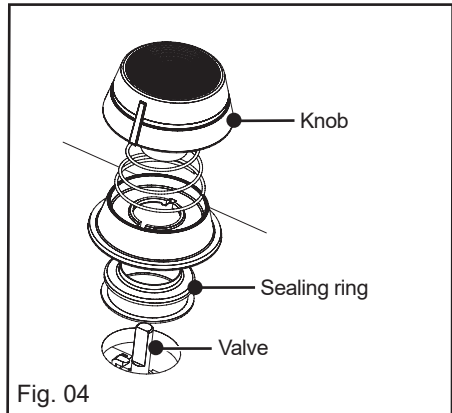

Fig. 04
- **Adjust the burner power screws:** they are located under the knobs (Fig. 04).